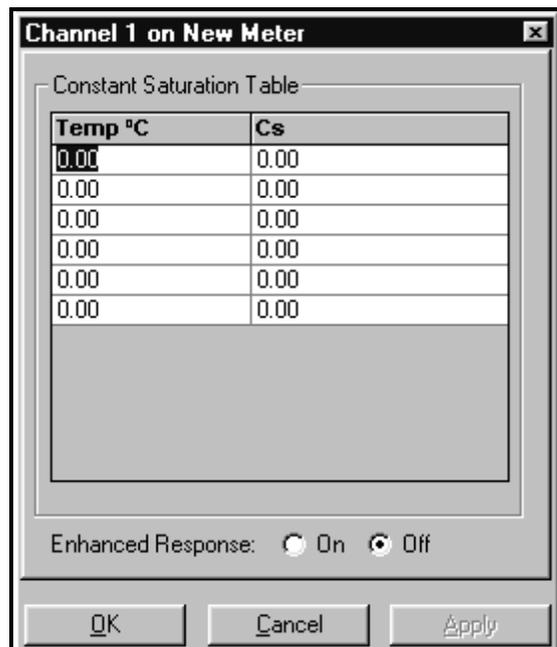

Figure 4-11: Constant Saturation Window
3. The “*Constant Saturation Table*” window appears, as shown in Figure 4-11 below.